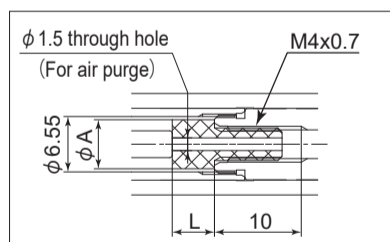

Fig. 7
Please make the stopper by your own to adjust " Tool Mounting Depth ". Utilize the screw M4 x 0.7 ℓ 10 in the spindle in consideration for " Dimension φA " to fit for tool shank diameter and the required adjust length (L) refer to Fig 7.